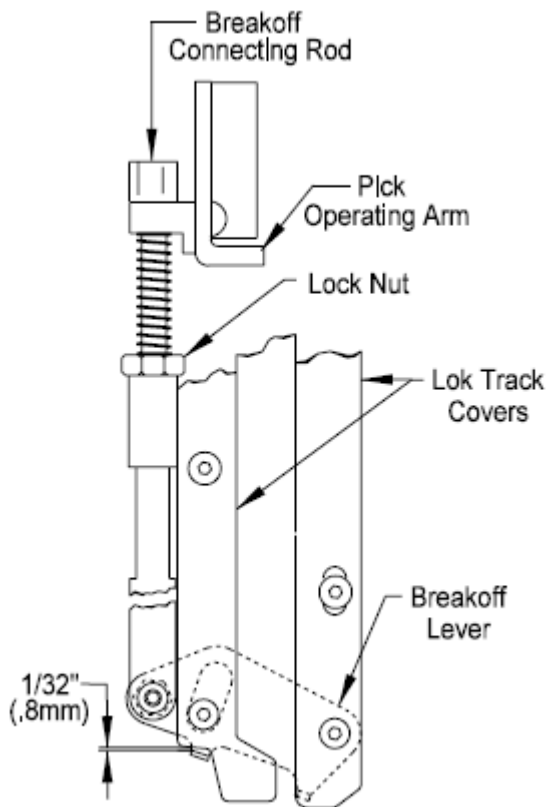

Figure 5.8
H. CLIP BREAKOFF LEVER: (Figure 5.8)